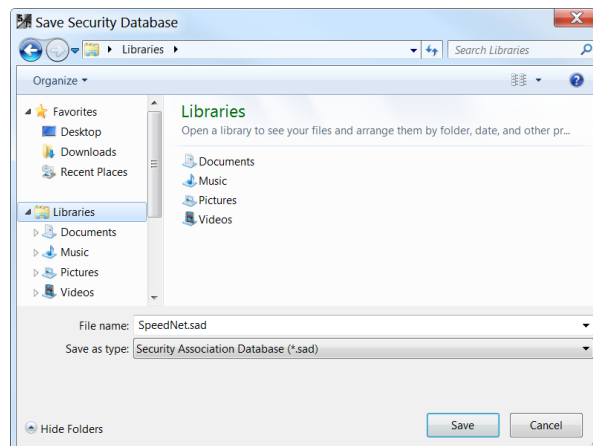

Figure 30. Save Security Database window.
STEP 2. The Save Security Database window will open. See Figure 30. Enter a file name for the database, and click the **Save** button.